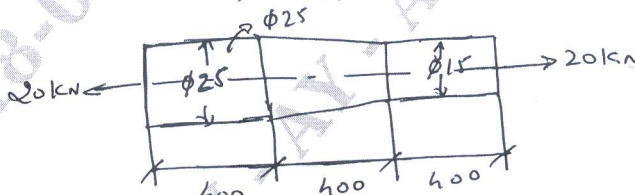

Fig.Q1(b)
- b. Find the total elongation and the maximum stress in the material of the bar shown in Fig.Q1(b) under an axial load of 20 kN, $E = 200 \text{ GN/m}^2$.